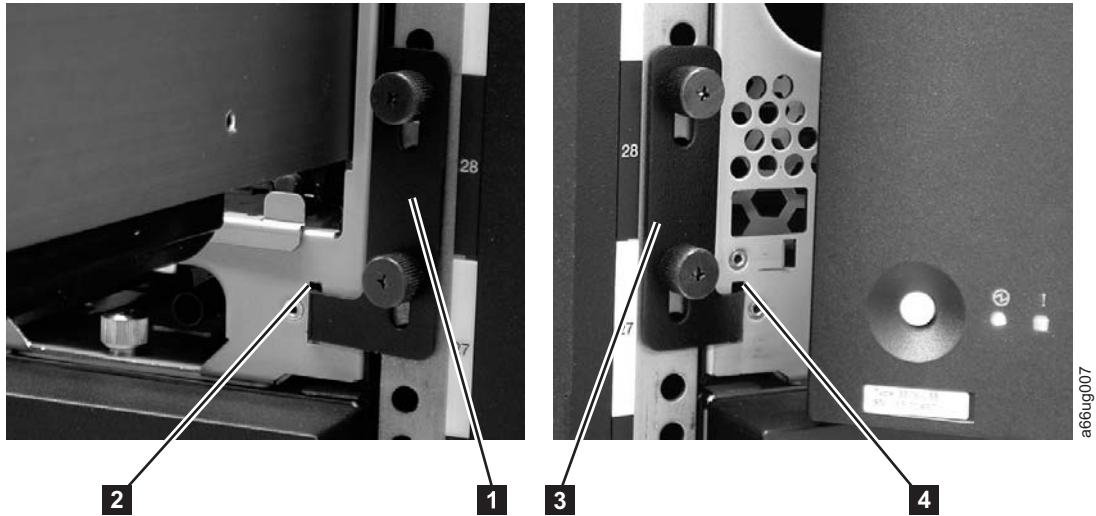

Figure 8-9. Removing the rack ears (Control Module shown)
2. Remove the right rack ear (**1** in Figure 8-9 on page 8-15).
3. Remove the left rack ear (**3** in Figure 8-9).
2. Replace the right rack ear (**1** in Figure 8-9).
- a. At the bottom right of the I/O Station position on each library unit, there is a slot (**2** in Figure 8-9). Insert the right rack ear into the slot.
3. Replace the left rack ear (**3** in Figure 8-9).
- b. Insert the left rack ear into the slot (**4** in Figure 8-9).